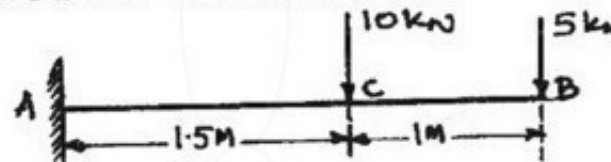

Fig Q6(a)
- 6 a. Calculate the slope and deflection at the free end of cantilever beam as shown in Fig Q6(a) by moment area method. Take $EI = 4000 \text{ kN-m}^2$. (10 Marks)